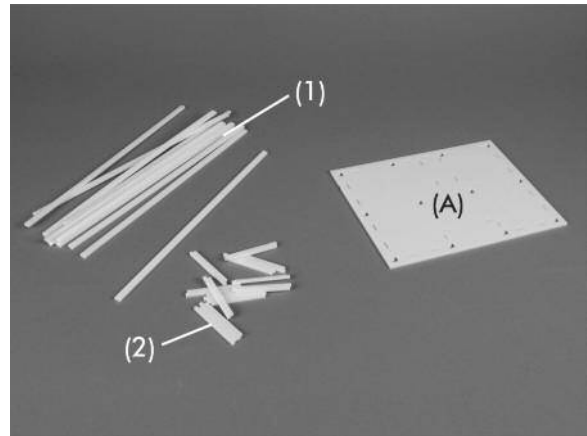

Figure 2
Glue part (2) onto the bottom of the long column part (1). The ends on part (2) are identical; there is not a top or bottom. Be sure that the orientation of the tab on the bottom of part (2) is the same as shown. The tab should be on the left and the notch on the right. Make up twelve of these assemblies. See Figures 2 & 3.